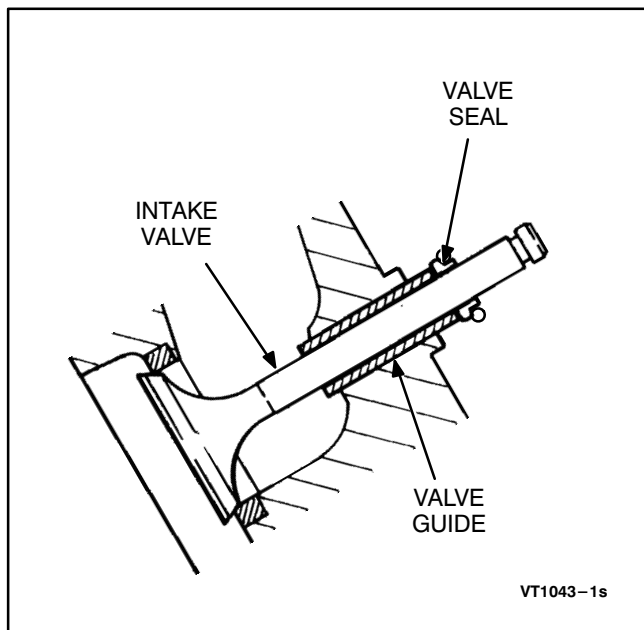

FIGURE 9-12. VALVE SEAL INSTALLATION
3. Press the valve seal into the valve guide by hand until the shoulder of the seal rests against the cylinder head (Figure 9-12).